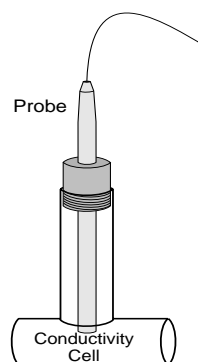

Figure 2.5 • In-Line Conductivity Cell
**The conductivity probe must be located away from the other three probes, and the conductivity probe must be installed in a controlled volume environment called a “conductivity cell.”** (See Figure 2.5)